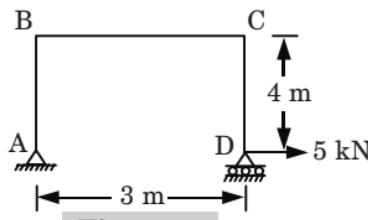

Fig. 3.5.1.
- Q. 5. Determine the horizontal displacement of the roller end D of the portal frame shown in Fig. 3.5.1.  $EI$  is  $8000 \text{ kN}\cdot\text{m}^2$  throughout.**